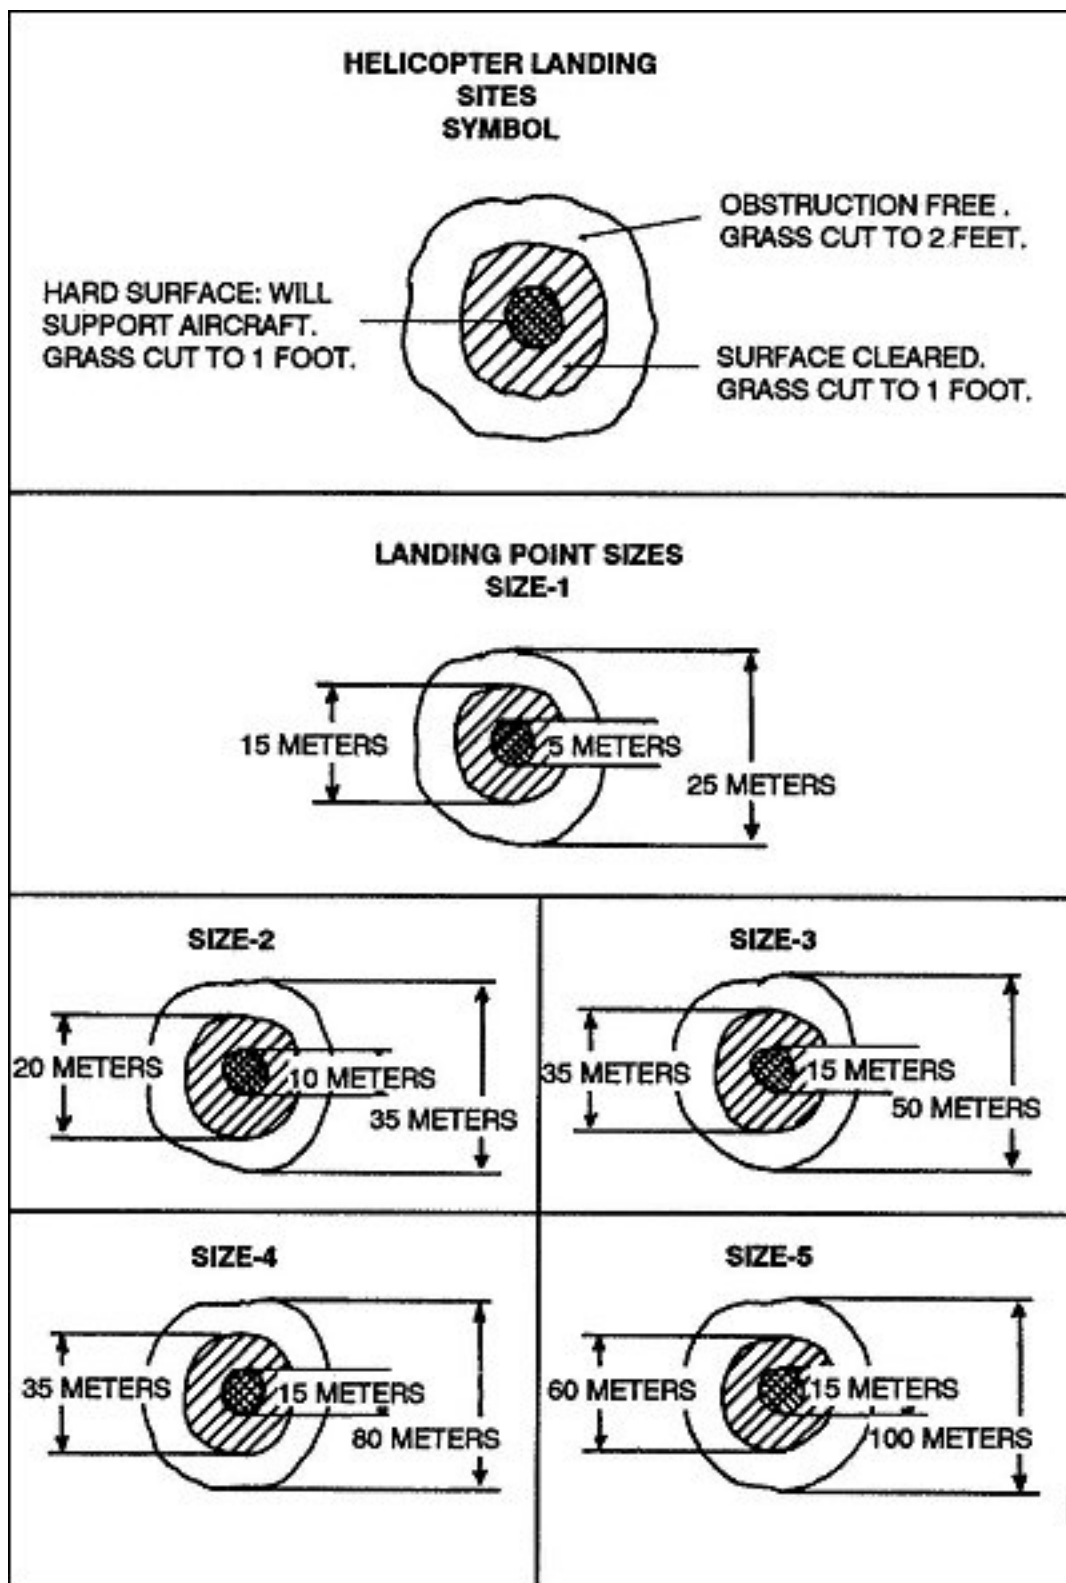

Figure 4-3. Landing points.
d. **Measure the Shortest Distances Between Landing Points.** In a landing site, pathfinders measure the minimum distances between landing points, from center to center. When aircraft sizes vary, pathfinders separate landing points by the most generous measure, allowing 100 meters from center to center of the landing points (Figure 4-3). At the least, these distances must measure
- (1) Size 1 Landing Point. 25 meters.
- (2) Size 2 Landing Point. 35 meters.
- (3) Size 3 Landing Point. 50 meters.
- (4) Size 4 Landing Point. 80 meters.
- (5) Size 5 Landing Point. 100 meters.